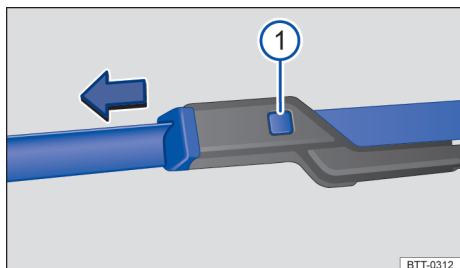

Fig. 122 Changing the windscreen wiper blades
- Press and hold the release button → Fig. 122 ① and simultaneously pull off the wiper blade in the direction of the arrow.